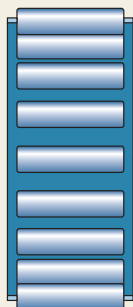

Fig. 11
- have a connection that accommodates, for example, 4 × 0,75 polyamide tubing in accordance with DIN 73378, as shown in fig. 11, in which: